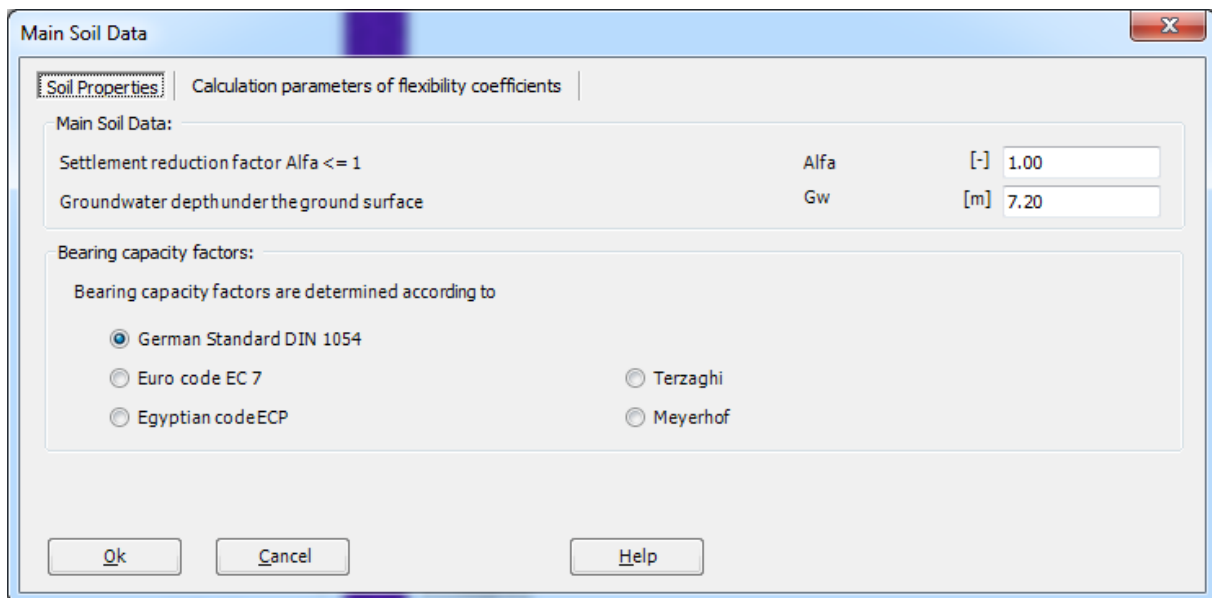

Figure 9.20 "Main Soil Data" dialog group box
- Choose "Main Soil Data" from "Data" menu in Figure 9.20. The following dialog group box in Figure 9.20 appears
- In this dialog group box, enter the settlement reduction factor α and the groundwater depth under the ground surface G_w [m] as indicated in Figure 9.20 Note that the groundwater depth under the ground surface was typed in the corresponding edit box because this value has been already defined graphically
- Click "OK" button in the "Main soil data" dialog group box in Figure 9.20